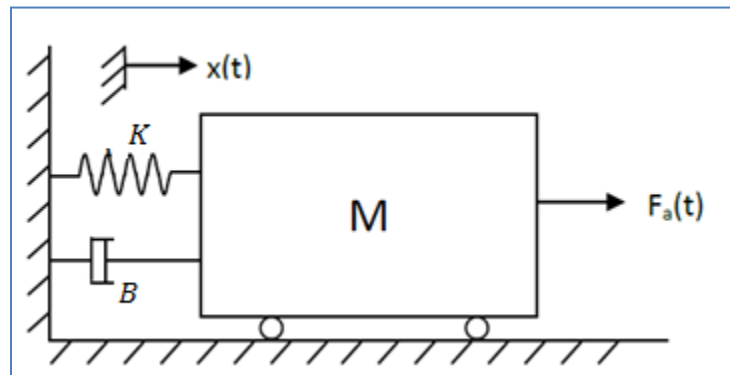

Figure 4.1
Consider the following Mass-Spring system shown in the Figure4.1 below.
- a) Derive the second order differential equation of the mass-spring system shown in Figure 4.1 and write it down in the space below: